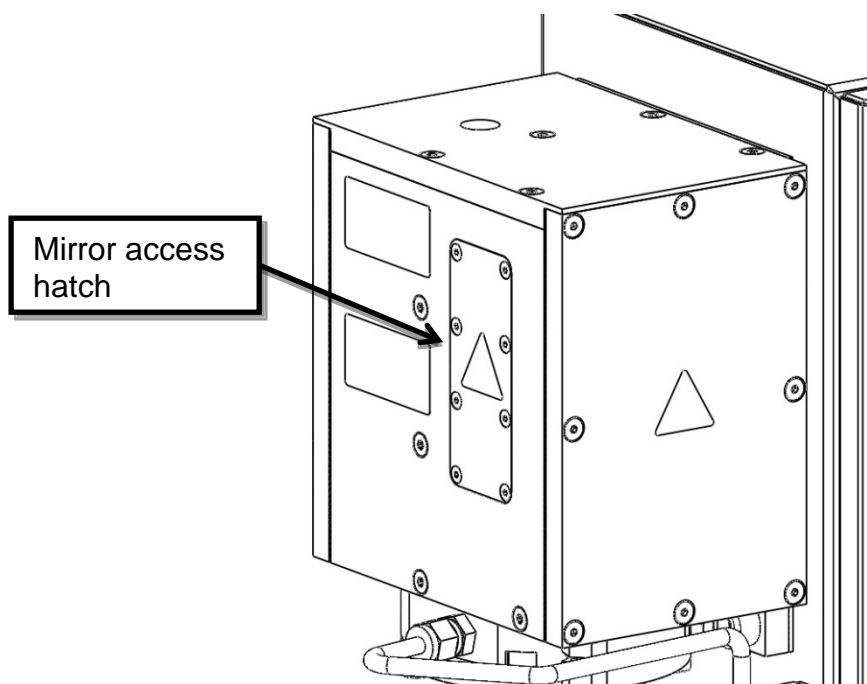

Figure 3-3: Alignment chamber access panel
3. Leave the instrument switched ON, and remove the lid to the left on the laser beam alignment chamber by unscrewing the eight screws (see Figure 3-3).